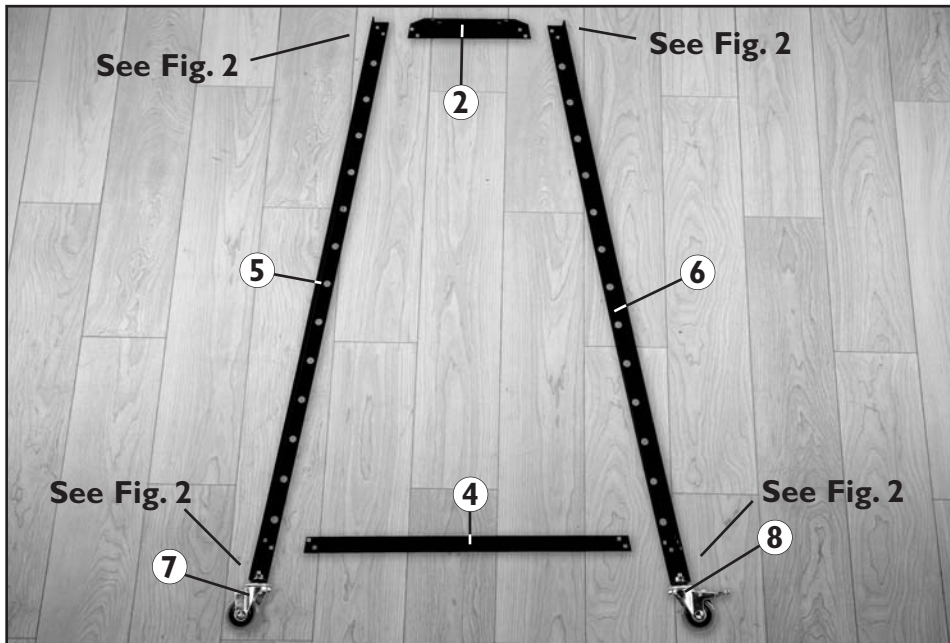

Fig. 1
1. On the floor or large workbench, layout 2 legs - one left (5) and one right leg (6) as well as one 11 $\frac{1}{8}$ " Upper Side Stretcher (2) and one 29 $\frac{3}{8}$ " Lower Side Stretcher (4). Attach one non locking caster (7) to the bottom of the left leg (5) and one locking caster (8) to the bottom of the right leg (6) using 3/4" caster nuts (9). **Fig. 1.**